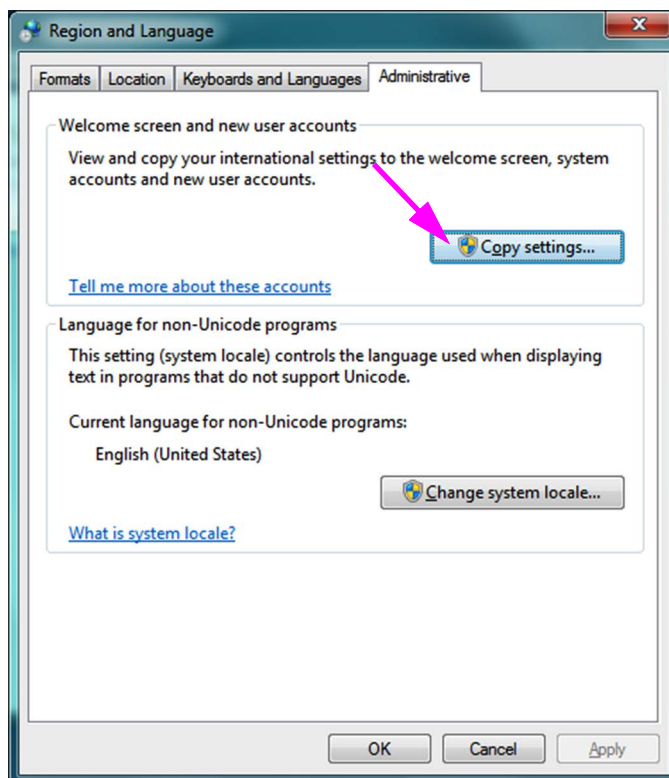

Figure C-16. Écran Region and Language (Région et langue) – Onglet Administrative (Administration)
6. Cliquez sur l'onglet **Administrative (Administration)**. L'onglet Administrative (Administration) apparaît (cf. Figure C-16).